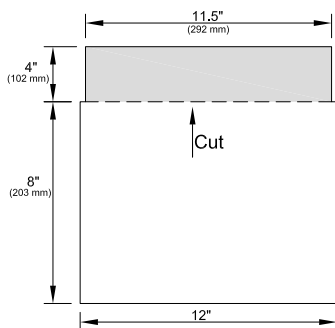

Figure 2
4. **Prepare the starter course...** Use a 12" x 12" (305 mm x 305 mm) ridge cap piece and cut along the line between the headlap and exposed area of the shingle. This will provide a double-thick 4" x 11 1/2" (102 mm x 292 mm) starter piece (see Figure 2).